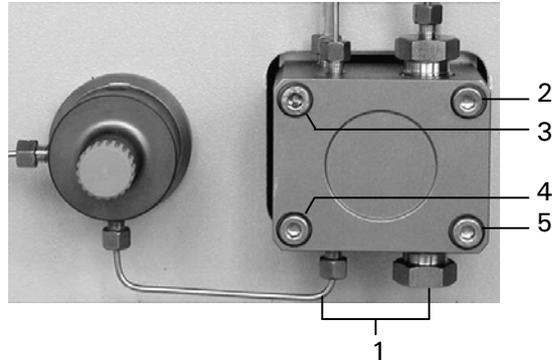

FIGURE 4-14. Disassembly of the Pump Head
- a) Remove the inlet and the connecting capillary (FIGURE 4-14).
- b) Loosen two diagonally opposed screws (e.g. screws 2 and 4 in FIGURE 4-14 by a quarter turn at a time and remove the screws.
- c) Carefully loosen the two remaining screws (e.g. screws 3 and 5 in FIGURE 4-14), alternating from one to the other, approximately half a turn at a time and remove the screws.